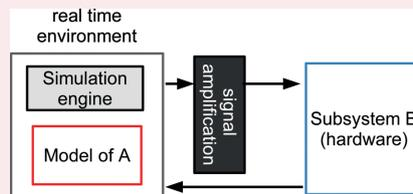

Figure 3. HIL Testing of Subsystem B
With the advent of more powerful computational tools, real-time simulation of Electromagnetic Transient or Dynamic Phasors (DP) for large-scale electricity became feasible over the past two decades. This enables Hardware in the Loop (HIL) testing, the concept of which is shown in Fig. 3. The main principle is to include as much as the overall model into the real-time environment as technically feasible, and have the device under test as subsystem B placed in the lab. The real time simulator produces signals sampled at 50  $\mu$ s at its analogue output interface. The signals commonly range from -10V to 10V, and might, depending on the type of hardware connected, require appropriate amplification. The response of the subsystem is subsequently captured and looped back